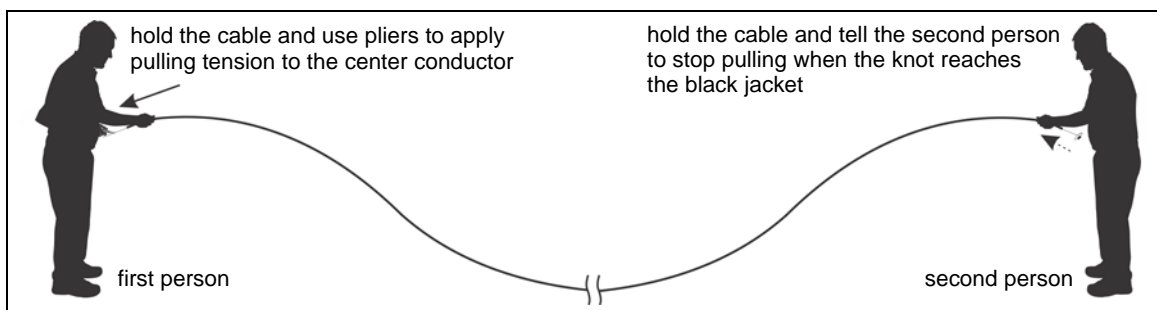

Figure 16: Mark 2 cable conditioning (part 2 cable flossing)
2. The first person then uses pliers to apply 2.3 to 4.5 kg (5 to 10 lb) of pulling tension to the center conductor while maintaining a firm grip on the cable's black jacket (see Figure 16:). The second person holds the cable firmly by the black jacket and tells the first person to stop pulling when the knot reaches the black jacket.